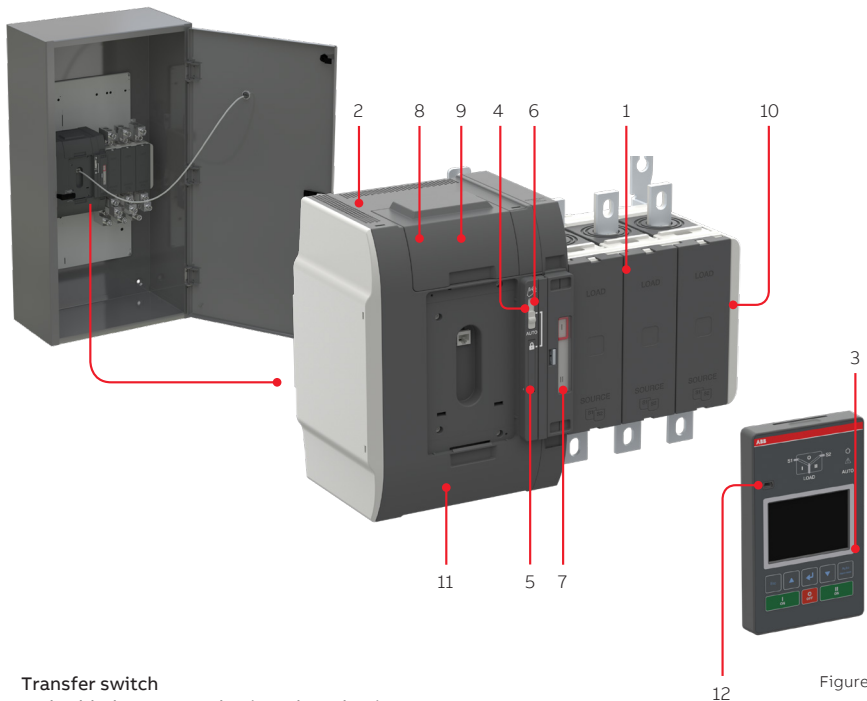
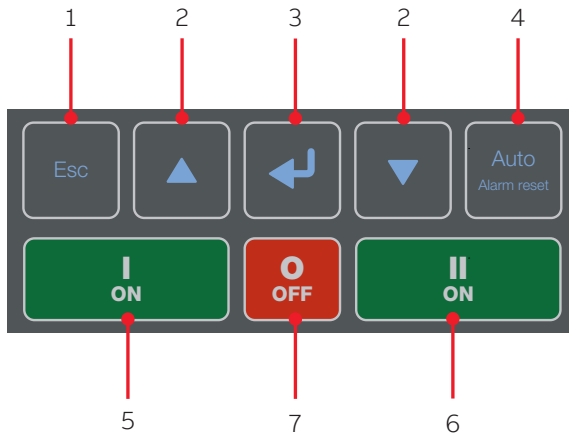

Figure 1
Figure 4
Zenith ZTG(D) series ATS consists primarily of the TruONE™ power panel and an electrical enclosure. The TruONE Level 3 power panel integrates switch, mechanism, controller, power supply, HMI, and all connectivity accessories into one seamless unit. The construction of this transfer switch is outlined in Figure 1.
2. Confirm rating label matches the installed application. For location see Figure 1, number 12.
5. Confirm that control wiring for engine start is properly terminated to the engine start contact (located in Figure 1, number 8).
7. Flip slide switch (Figure 1, number 4) to AUTO
* Slide switch (Figure 1, number 4) must be in Auto, and controller mode (Figure 4, number 4) must be in Manual.